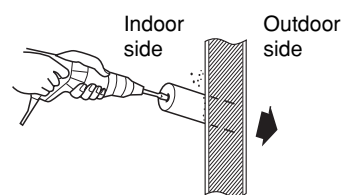

Fig. 3-50
- (8) If the tubing and wiring are to go towards the rear of the unit, make holes in the wall. (Fig. 3-50)